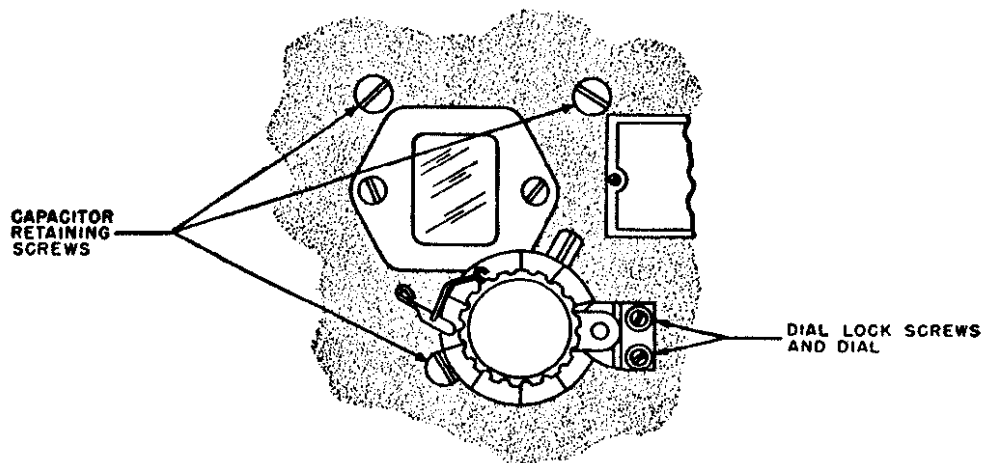

Figure 97. Transmitter capacitor and dial retaining screws.
a. Refer to figure 97. Remove the dial lock-screws and dial knob from the main tuning capacitor shaft on the front panel of the transmitter. On some transmitter models, the dial knob is held to the shaft by a small setscrew which can be loosened with the larger Bristo wrench contained in Case: Box BX-53-GY.
e. Following this step, remove the three capacitor retaining screws on the front panel of the transmitter seen in figure 97.